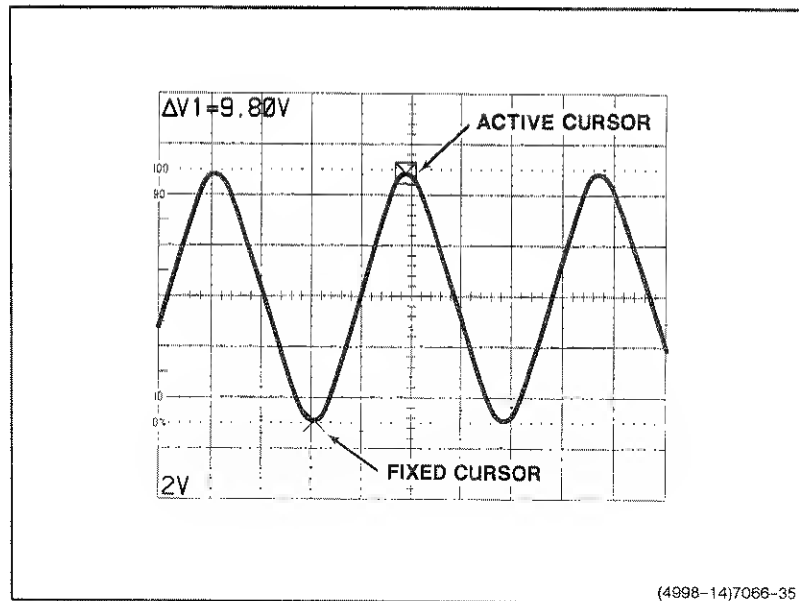

Figure 6-14. Ac peak-to-peak voltage, cursor method.
7. Push in the CURSORS knob (SELECT C1/C2) to select the other cursor, and use the CURSORS control to move the cursor to the opposite peak of the waveform (see Figure 6-14).